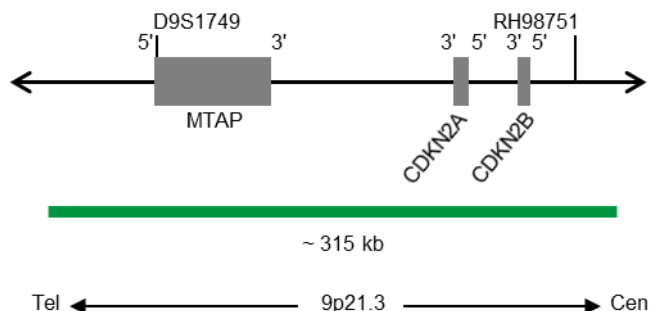

Fig. 1: SPEC CDKN2A Probe map (not to scale)
- ZyGreen (excitation 503 nm/emission 528 nm) labeled polynucleotides (~10 ng/μl), which target sequences mapping in 9p21.3* (chr9:21,742,629-22,056,853) harboring the CDKN2A gene region (see Fig. 1).